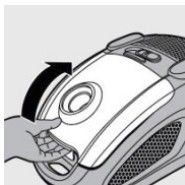

Figure 23
2. Open the cover (Figure 23).